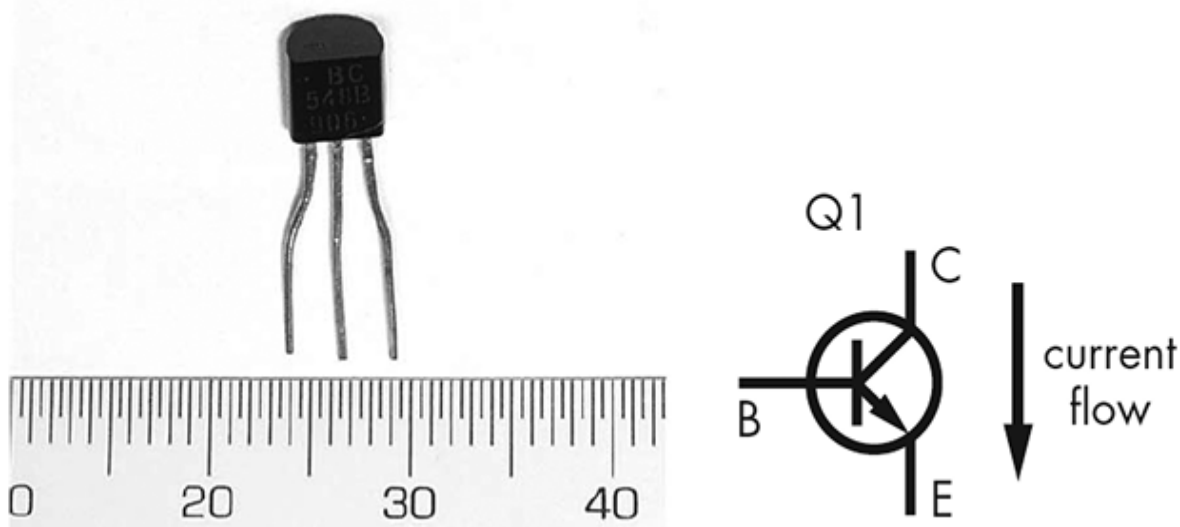

Figure 3-16: A typical transistor: the BC548
Almost everyone has heard of a *transistor*, but most people don’t really understand how it works. In the spirit of brevity, I will keep the explanation as simple as possible. A transistor can turn on or off the flow of a much larger current than the Arduino Uno can handle. We can, however, safely control a transistor using an Arduino digital output pin. A popular transistor is the BC548, shown in Figure 3-16.
Similar to the LED, the transistor's pins have a unique function and need to be connected in the proper orientation. With the flat front of the transistor facing you (as shown on the left of Figure 3-16), the pins on the BC548 are called, from left to right, the *collector* (C), *base* (B), and *emitter* (E). (Note that this pin order, or *pinout*, is for the BC548 transistor; other transistors may be oriented differently.) When a small current is applied to the base, such as from an Arduino digital I/O pin, the larger current we want to switch enters through the collector. It's combined with the small current from the base before flowing out via the emitter. When the small control current at the base is turned off, no current can flow through the transistor.